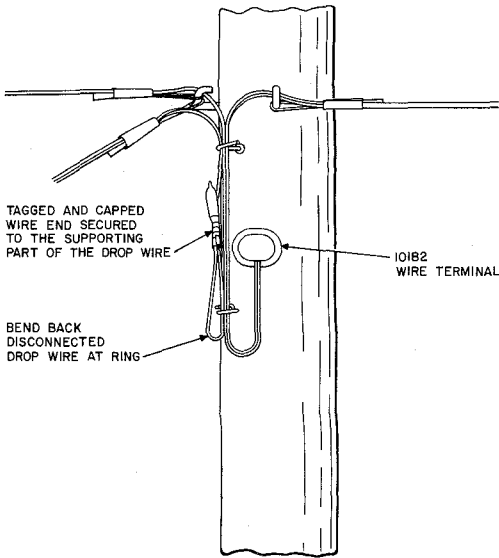

Fig. 7—101-Type Wire Terminal, Pole Mounted
**8.01 Party Line Taps in Drop Wire Runs Along a Lead:** Pull the free end of wire out of the wire terminal, tag and cap it and secure to the supporting part of the drop as shown in Fig. 7. If the party line extending beyond the wire terminal pole is disconnected, treat its free end at